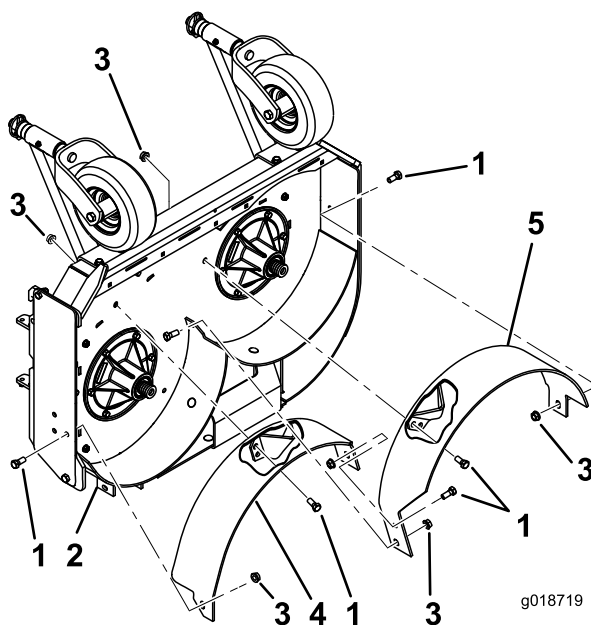

Figure 6
2. Loosely install the right baffle to the mower deck with 1 bolt (3/8 x 7/8 inch) and 1 flange nut (3/8 inch) (Figure 6).
3. Loosely install the right baffle to the discharge plate with 1 bolt (3/8 x 7/8 inch) and 1 flange nut (3/8 inch) (Figure 6).
5. Loosely install the left baffle to the mower deck with 2 bolts (3/8 x 7/8 inch) and 2 flange nuts (3/8 inch) (Figure 6).
6. Loosely install the left baffle to the left sidewall of the mower deck with 1 bolt (3/8 x 7/8 inch) and 1 flange nut (3/8 inch) (Figure 6).
7. Loosely install the left baffle to the right baffle with 1 bolts (3/8 x 7/8 inch) and 1 flange nuts (3/8 inch) (Figure 6).
6. Tighten all bolts and nuts for the baffles (Figure 6).